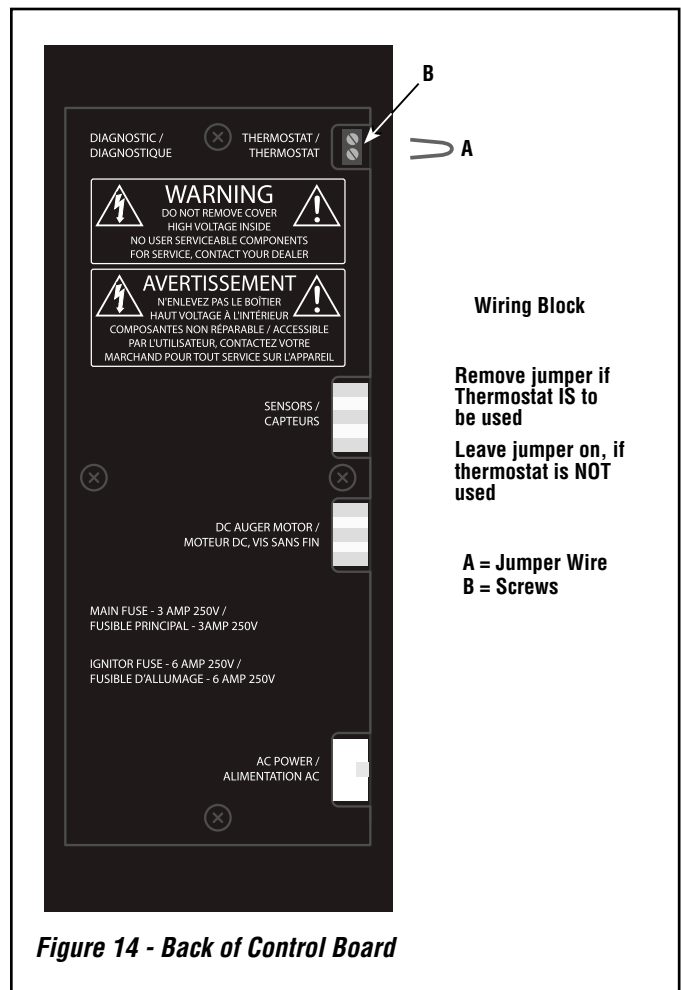

Figure 14 - Back of Control Board
1. Unplug the stove from the electrical outlet. Open the control board access door. Locate the black wiring block at the top right on the back side of the control board (see **Figure 14**). Loosen the two screws B at the back of the block, and remove the U shaped jumper wire A protruding from the block.